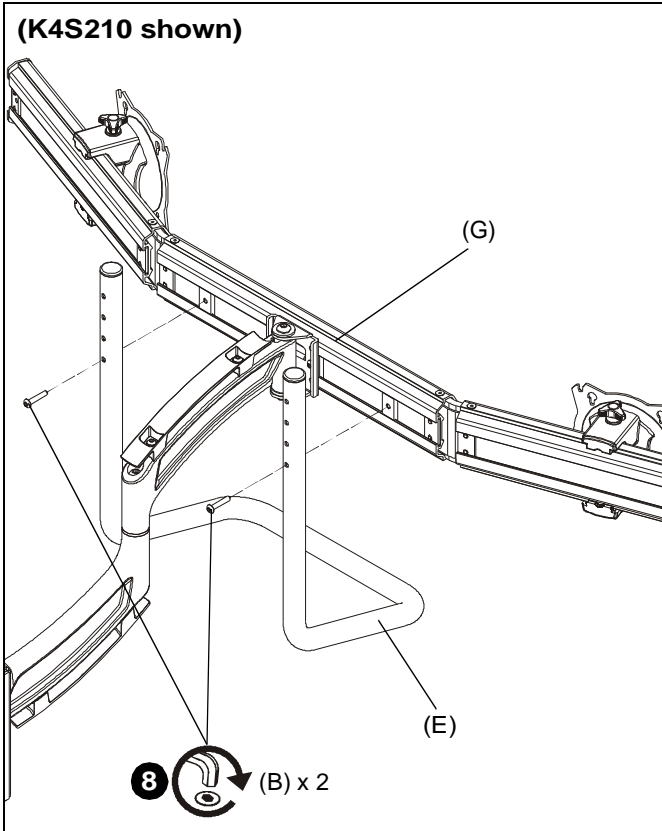

Figure 5
- Use two #10-32 x 1" button head cap screws (C) to secure two handle (E) to array arm (G). (See Figure 5)